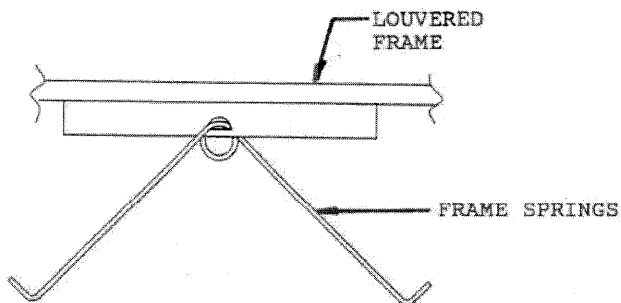

FIGURE 6
- 7.- Attach FRAME SPRINGS to LOUVERED FRAME. (SEE FIGURE 6)